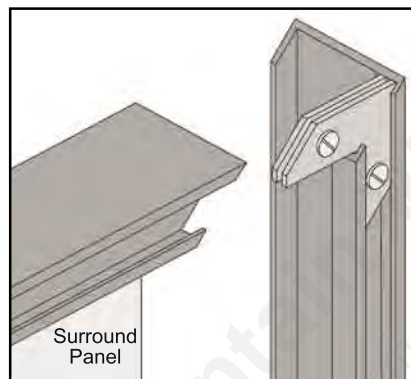
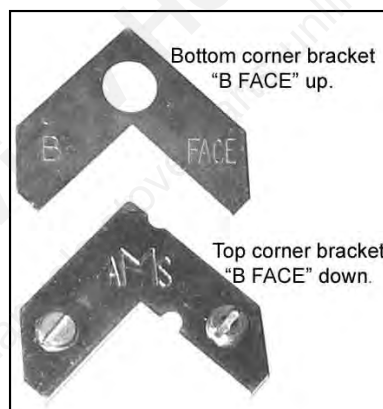
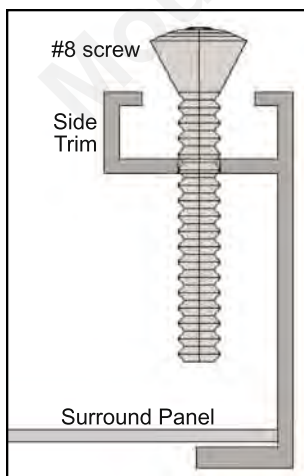

Figure 52: Corner brackets for trim.
Figure 53: Two pieces of corner bracket.
Figure 54: Screw to hold the trim against the surround.
2. Attach one side trim to the top trim, using a corner bracket (see Figure 52) to secure pieces together. There are two (2) main pieces to each corner bracket (see Figure 53). When installing the corner pieces into the trim, the "B FACE" sides must face each other and the screw heads are to face out. With the bracket in place and the top and a side trim snug together, use a flat head screwdriver to turn the two (2) screws in the bracket to tighten it into the trim.
3. Slide the two (2) attached trim pieces onto the surround panel.
6. On the side trims, there are holes 2" (50 mm) from either end. Use a Phillips screwdriver to place a #8 screw 1 1/4" long in each hole and tighten (refer to Figure 54). This will keep the trim tight against the surround.